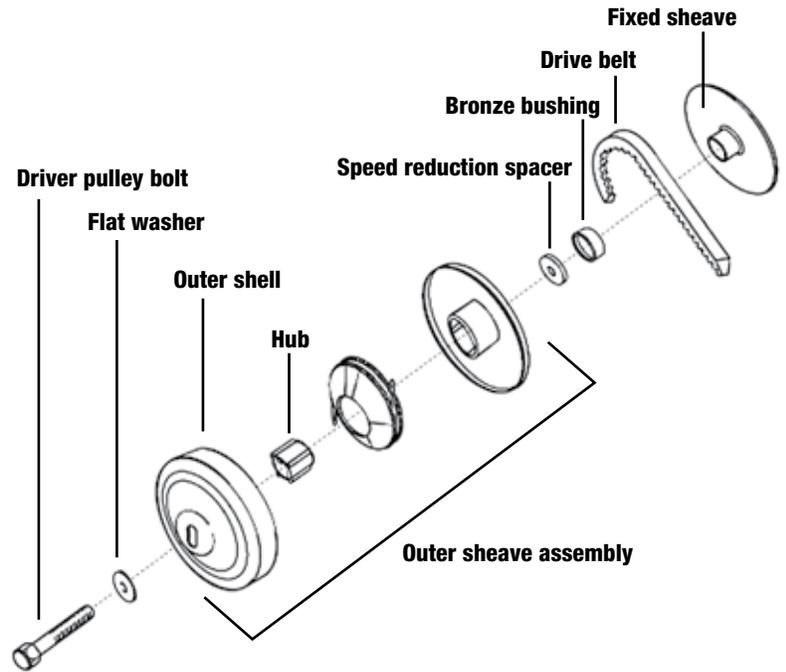

fig. 5 Driver Pulley Assembly
4. Remove the Speed Reduction Spacer and re-assemble the outer sheave assembly in the order as shown in Fig 5.